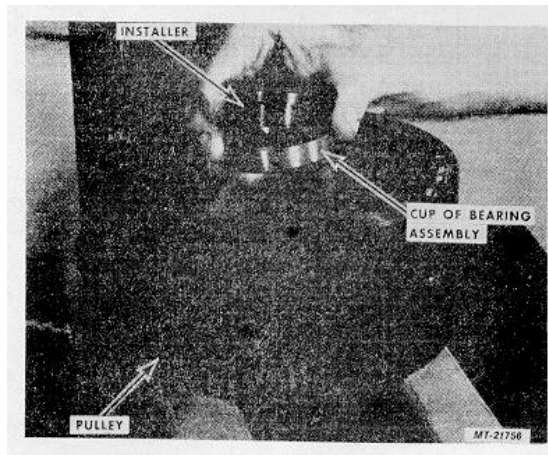

Fig. 64
27. Press the cup of Bearing Assembly down until the Installer SE-2782-2 bottoms. Fig. 64.